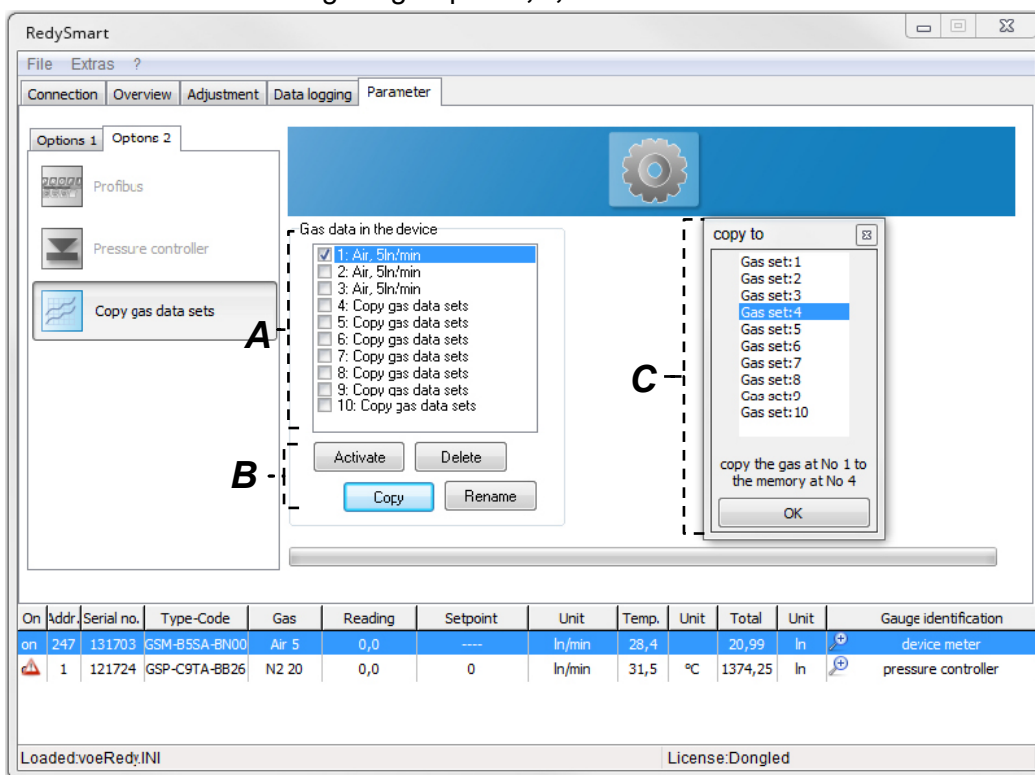

Figure 33: The Copying Gas Records page. In this example the gas record at position 1 is copied to position 4.
Select the [Graph >>] button to display the window in Figure 33. On the left side you can click on predefined set point jumps. By repeating the same set point jumps you can follow the change to the PID-Parameters. The I parameter has the strongest influence on the overshoots. Based on experience it ranges between 5 and 50.
-  The data is displayed as a graph (see Figure 33 and Figure 34).
-  The measurement data is represented in progressive chronological sequence (see Figure 33, i.e. only a specified chronological section within the diagram is shown).